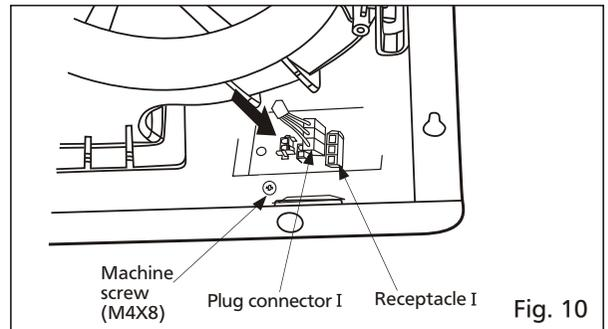

Fig. 10
- Secure the fan body to adaptor by using machine screw (M4X8) and plug connector to receptacle. (Fig.10)
- Secure the adaptor to fan body by using machine screw. (M4X8). (Fig. 10)
- Secure the blower. (Fig. 12-4) and plug connector to receptacle. (Fig. 10)